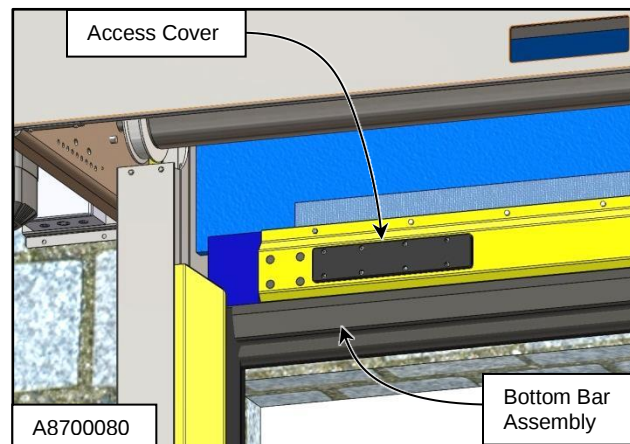

Figure 32
1. The reversing edge switch is located inside the bottom bar assembly, on the end same as the drive motor. To inspect and/or adjust the switch, remove the access cover from the face of the bottom bar assembly. (See Figure 32)